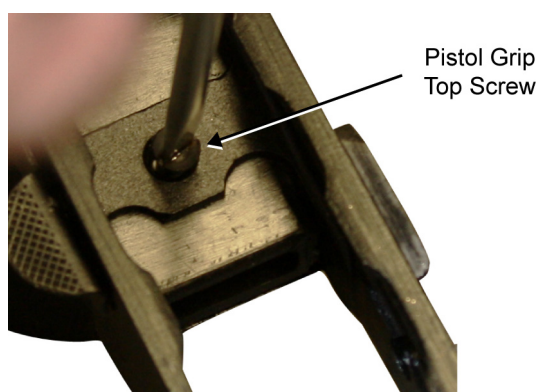

Figure 16. Remove the Pistol Grip Top Screw.
20. Remove the pistol grip top screw. Refer to Figure 16.